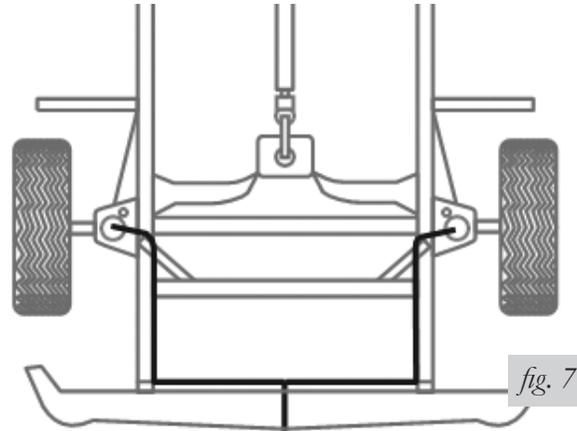

fig. 7
- Route air line along cross member and upper spring seat to air cylinder (fig. 7).
- Push the remaining air line over the last fitting on tee and route along frame to desired inflation valve location (fig. 7). Attach with plastic straps.